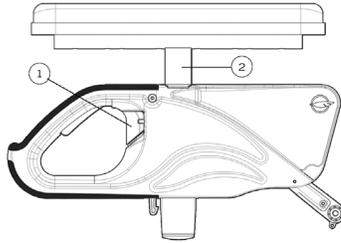

Fig. 16
- Flip lever (1) left or right to unlock the armrest (Fig. 16).
- Adjust the structure (2) at the desired height.